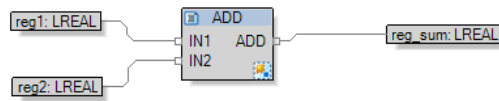

Figure 47: Create simple logic in the 61131 program.
7. In the drawing area below create an 'ADD' function block by Ctrl+W and typing 'ADD'. Right-click on IN1 and select **Add Internal Var**. Type 'reg1' as the VAR name and save. Do the same for IN2 and reg2, and ADD and reg_sum as shown in Figure 47.